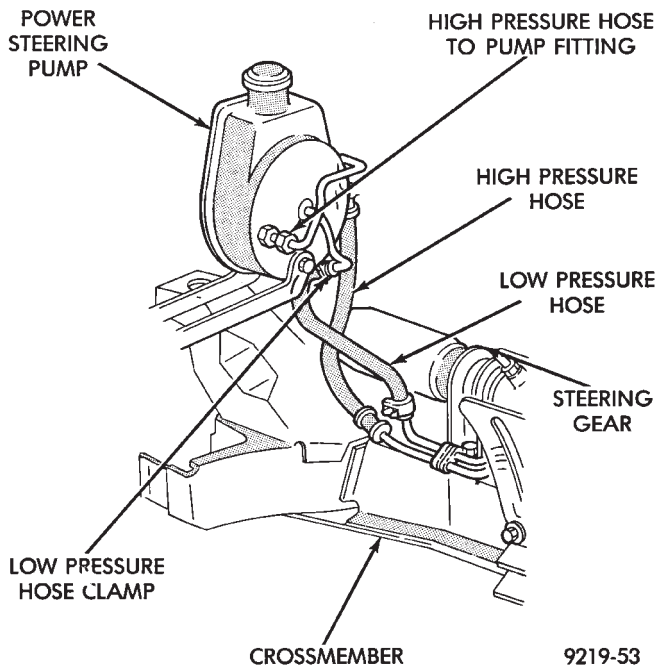

Fig. 2 Power Steering Fluid Hoses
(3) Raise vehicle See Hoisting, Group 0. Put oil drain pan under vehicle to catch power steering fluid. Remove hose clamp and low pressure fluid hose from power steering pump (Fig. 2).
(4) Remove the power steering, fluid pressure line (Fig. 2) from the power steering pump. Drain excess power steering fluid from line.
(5) Install the power steering fluid pressure line onto the output fitting of the power steering pump (Fig. 2). Torque the pressure line pump fitting nut to 31 N•m (275 in. lbs.). **Before connecting the pressure line to power steering pump inspect the O-ring on the pressure line for damage.**
(6) Install the power steering fluid, low pressure return hose on the power steering pump low pressure fitting (Fig. 2). Install hose clamp on low pressure return hose. Be sure the clamp is installed on hose past upset bead on power steering pump tube.
(7) Lower vehicle.